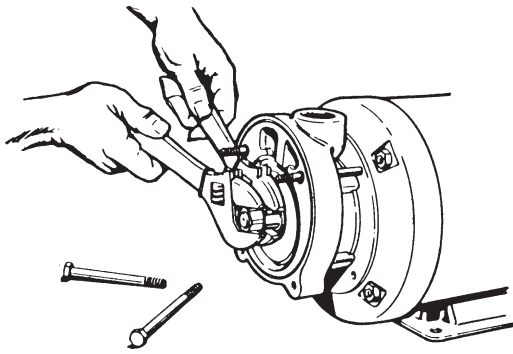

FIGURE 12
5. Remove the impeller drive hub. Refer to Figure 12. Two (2) adjustable wrenches are used to remove the impeller drive hub (#14).